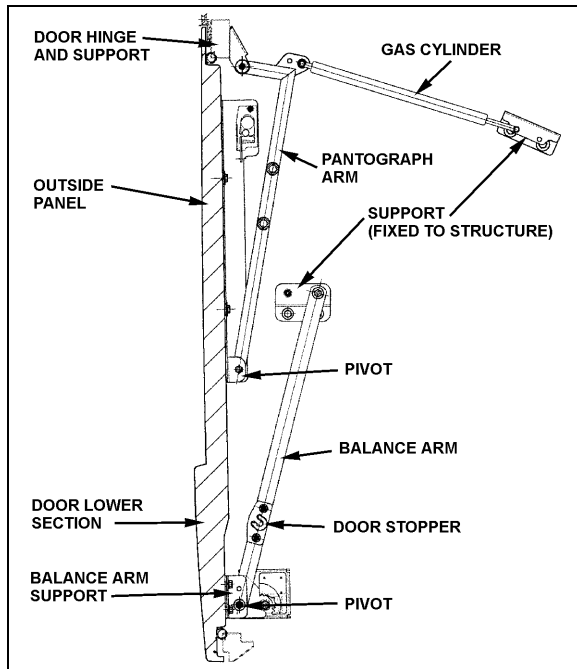

FIGURE 50: BAGGAGE COMPARTMENT DOOR 18061
**Note:** Refer, if needed, to figure 50 for identification of door components.